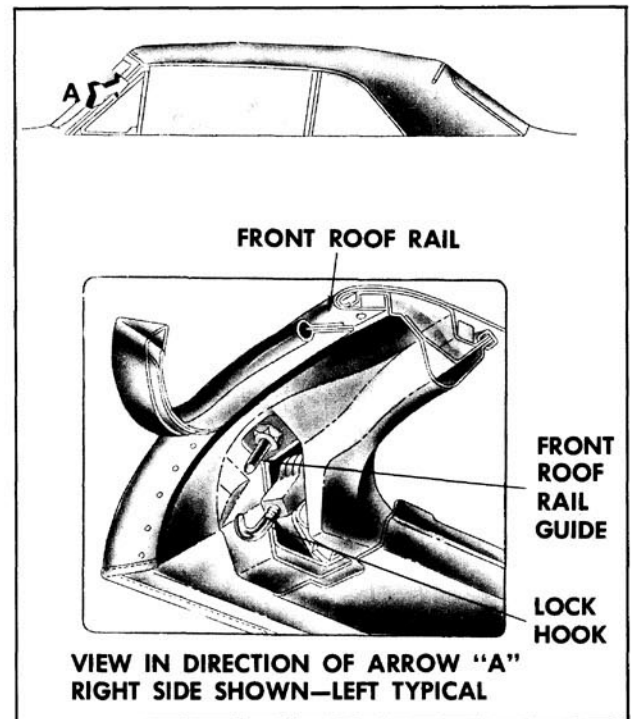

Fig. 16-428 Front Roof Rail Guide
2. Loosen guide sufficiently to permit adjustment. (Fig. 16-428)